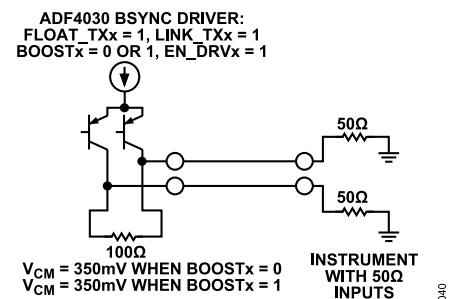
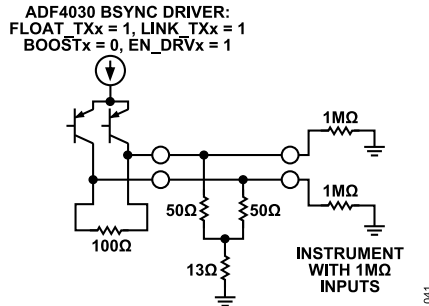

Figure 40. ADF4030 BSYNC Driver to 50 Ω Instrument Connection
Figure 41. ADF4030 Driver to 1 MΩ Instrument Connection
- Instruments that have 50 Ω and 1 M Ω input impedance (Figure 40 and Figure 41)